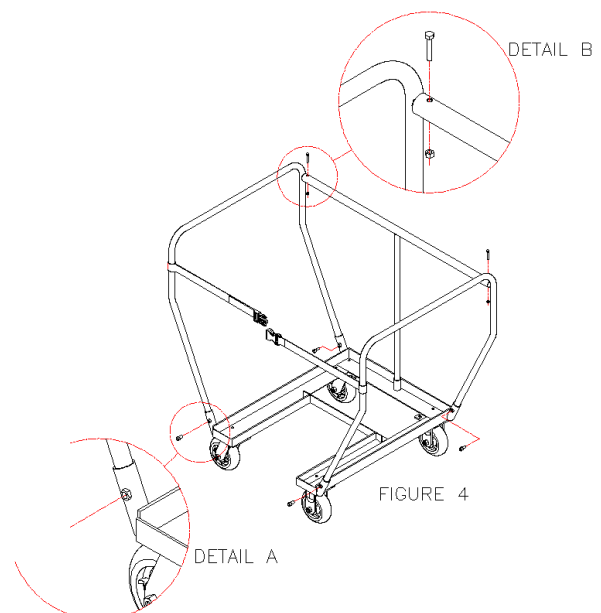

FIGURE 4
2. Start the 3/8" X 3/4" socket head bolts into the threaded nut on the sockets (if not already done -See Figure 4, Detail A). Do not tighten yet.
5. Insert the 1/4" X 1 1/2" hex bolt through the hole in the T-Handle and Handle mount (See Figure 4, Detail B). Hand Tighten.
6. Secure the handles to the Base by using the wrench provided (See Figure 4, Detail A).
7. Tighten the T-Handle bolts (See Figure 4, Detail B).